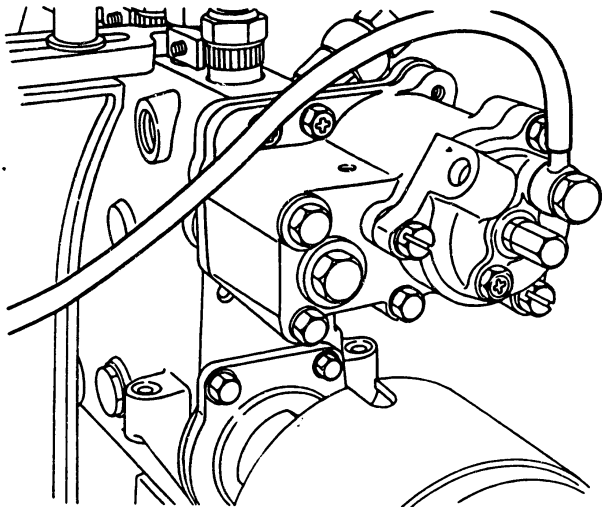

Fig. 104 Piping for the boost compensator adjustment
2. Connect the compressed-air pipe to the cover (65/18) using the eye bolt (65/27). (Fig. 104).